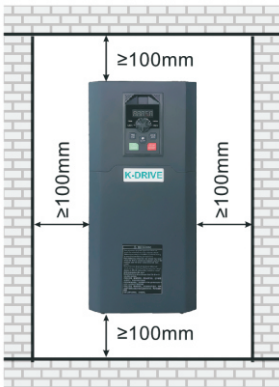

Figure 3-1 Individual installation diagram
- Please install the inverter vertically so that the heat can be dissipated upwards. But not upside down. If there are many inverters in the cabinet, it is better to install them side by side. In the occasions that need to be installed up and down, please refer to Figure 3-1 to install the heat insulation deflector.
- The installation space is as shown in Figure 3-1 to ensure the cooling space of the inverter. However, please consider the heat dissipation of other components in the cabinet when arranging.